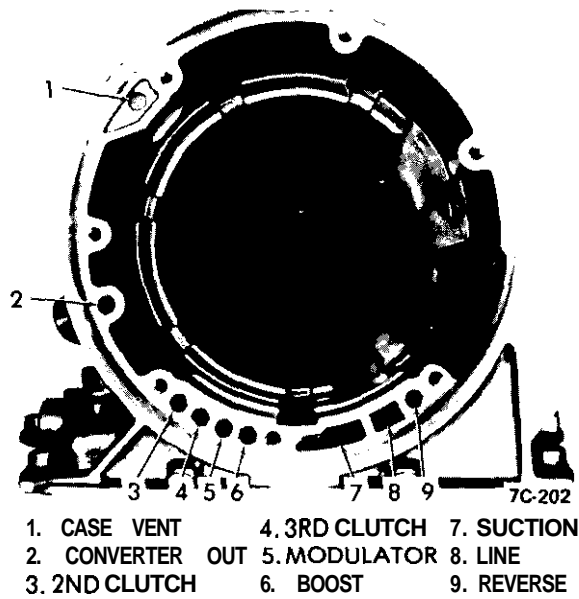

Figure 7C-202 Case Front View Oil Passage Identification
6. Inspect case bushing inside of case at rear. If damaged, remove bushing with remover and installer tool J-23 130-3 and driver handle J-8092. See Figure 7C-203.